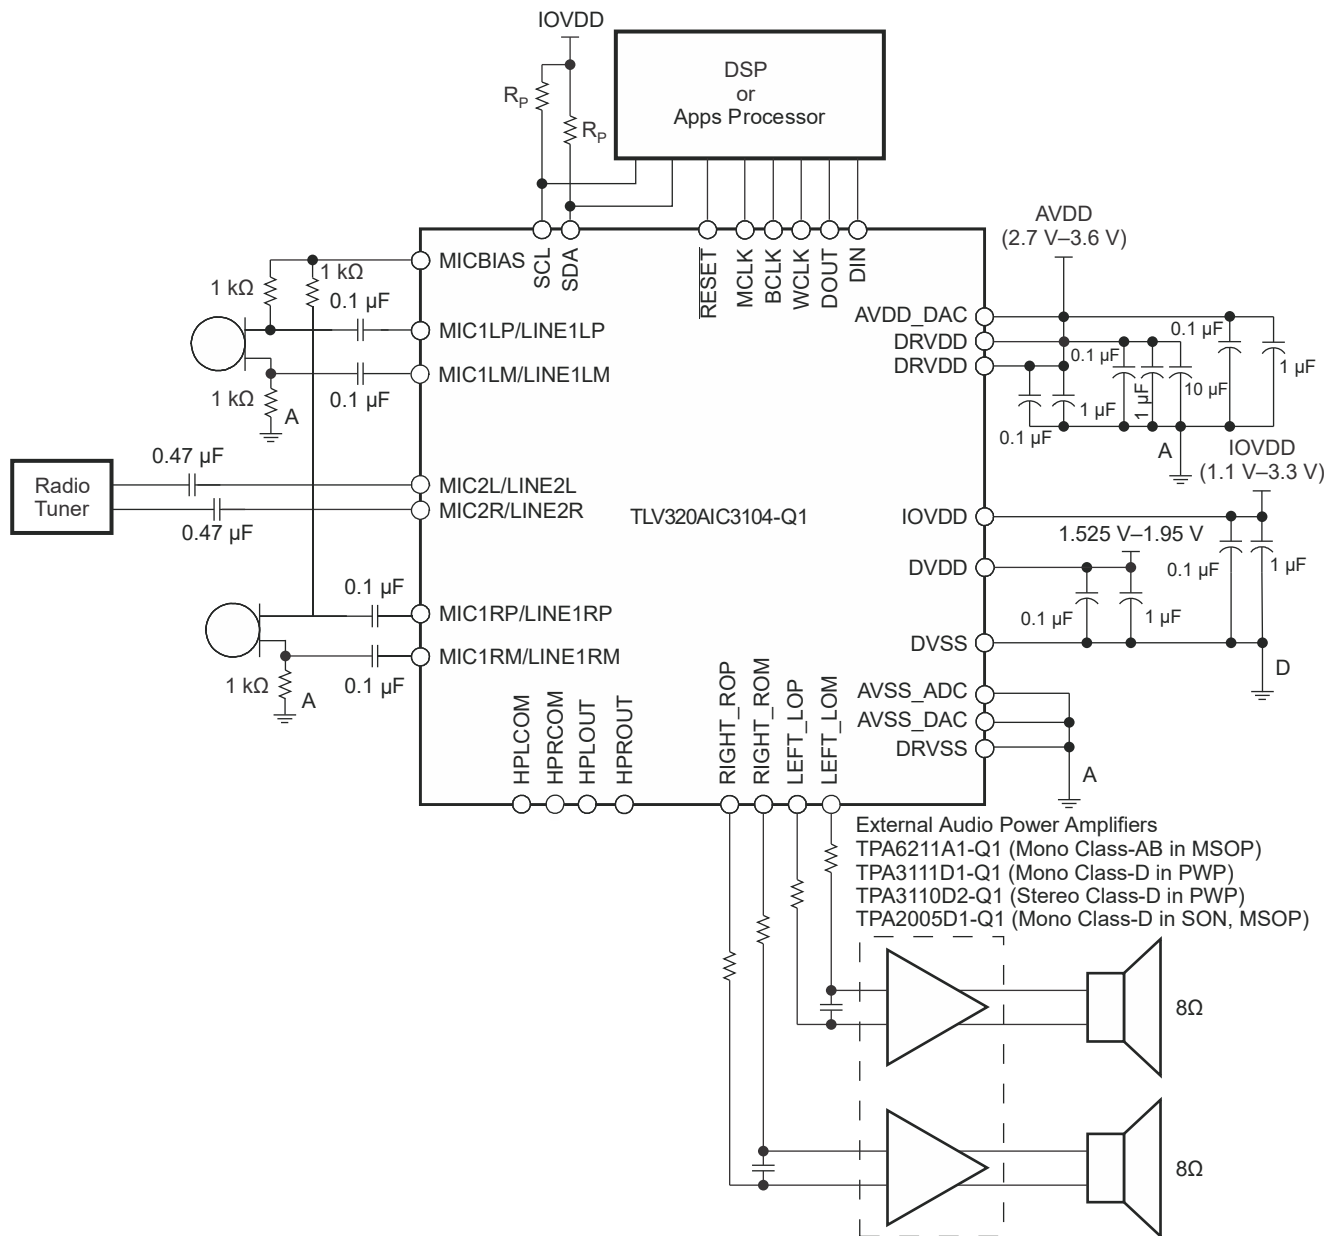

図 9-1. Typical Connections With Differential Inputs for External Speaker Driver
- Use Figure 9-1 as a guide to integrate the hardware into the system.